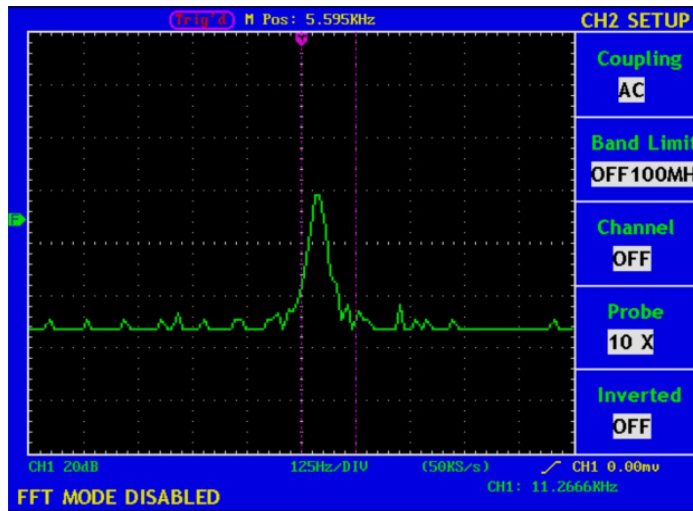

Fig. 22 Channel CH1 is diable under FFT mode
**Note:** In FFT mode, both CH1 and CH2 are not allowed to be ON when F3 is pressed. See Fig. 22.